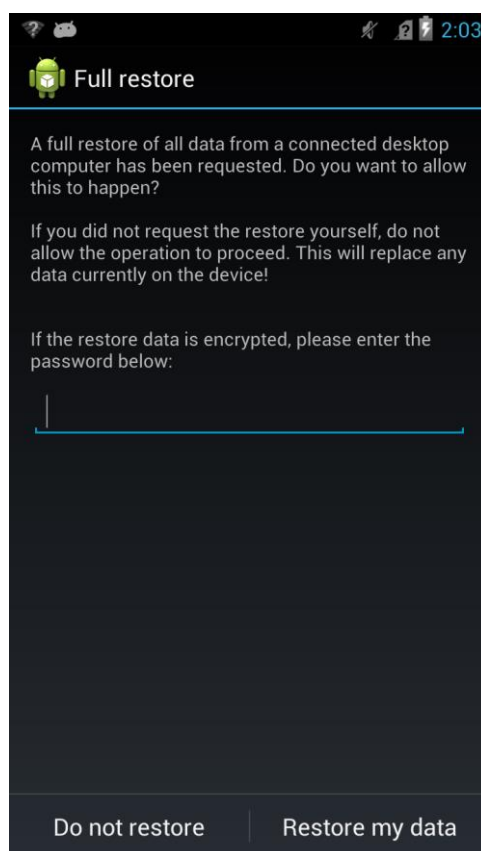

Figure 4-19: Full restore
3. Click on the "Restore" button and press "*Restore my data*" on the device side to start the restore process (Figure 4-19).